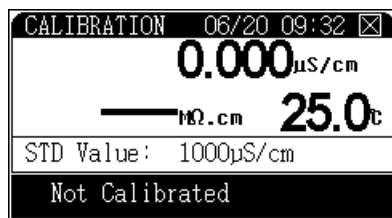

Figure 18 The Calibration screen
- 8 The **Calibration** screen appears. (see Figure 18).